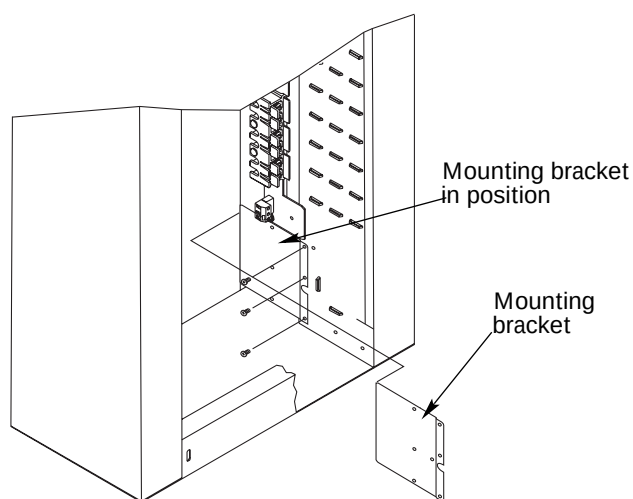

Figure 21: Installing the Mounting Bracket
1. Secure the mounting plate into the rack as shown in *Figure 21*.